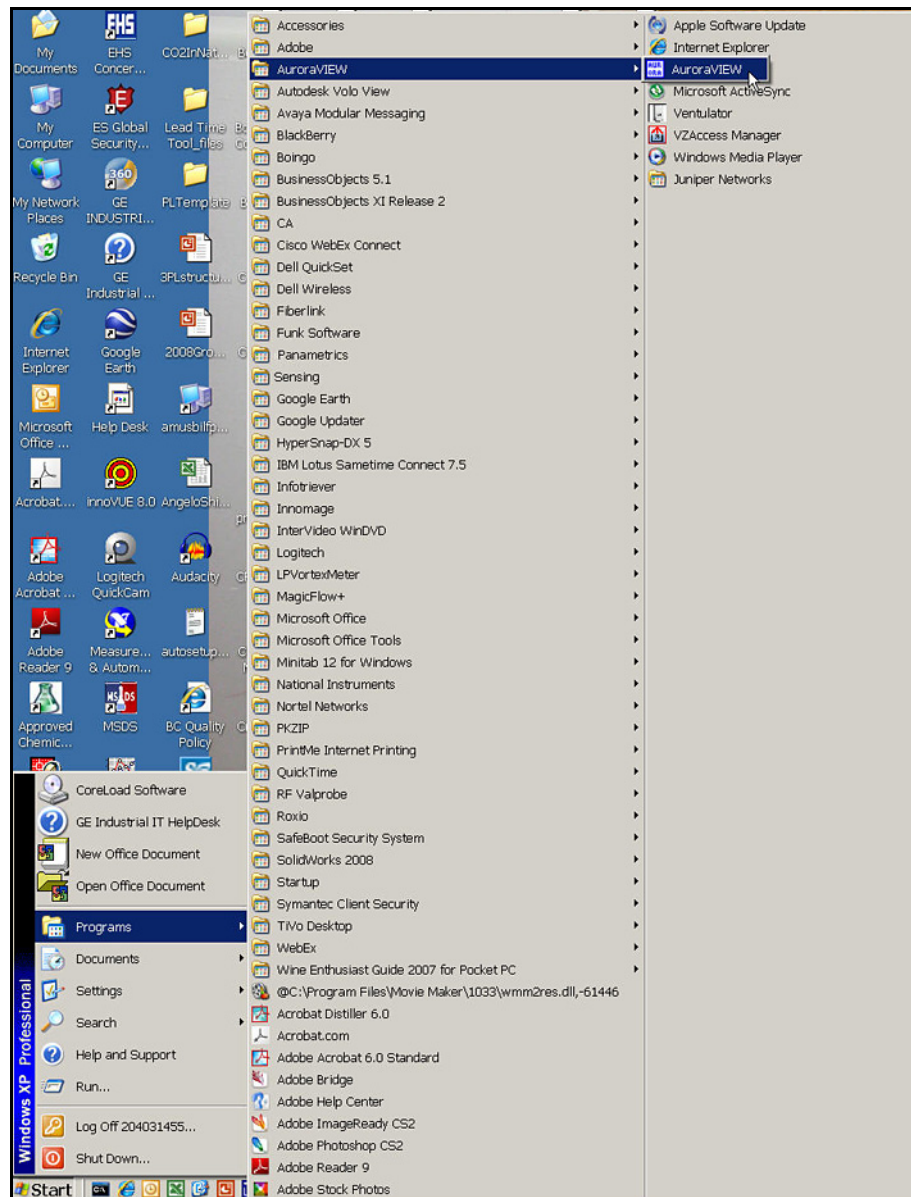

Figure 59: AuroraView in Programs Menu
1. From the Start menu, click Programs → AuroraView → AuroraView (see *Figure 59* below).